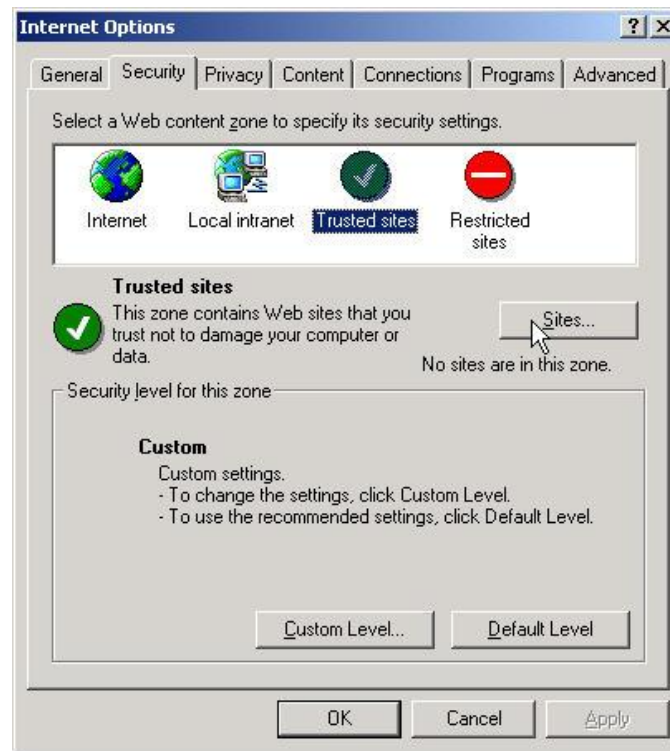

Figure 4 - Internet Options Window, Security Tab
3. In the Internet Options window click on the "Security" tab (Figure 4).
4. Click on the "Trusted Sites" icon and then click on the "Sites..." button to open the Trusted Sites window (Figure 4).